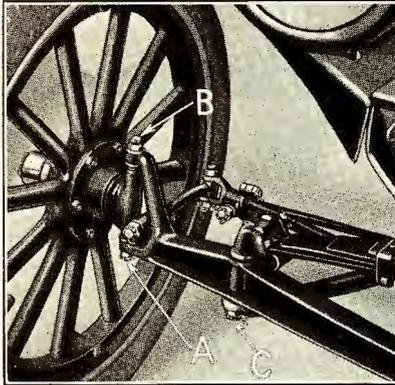

Fig. 380
- 724 Raise front end of car with lifting hooks. Run off the two spindle bolt nuts (See "A" Fig. 380), and run out spindle body bolts "B".
- 728 Insert spindle body bolt through axle and spindle (See "B" Fig. 380); run down the threaded end of the bolt as far as possible and install nuts on ends of bolts. Draw nuts down tightly and lock with cotter keys (See "A" Fig. 380). It is very important that the spindle body bolt nuts be drawn down tightly.